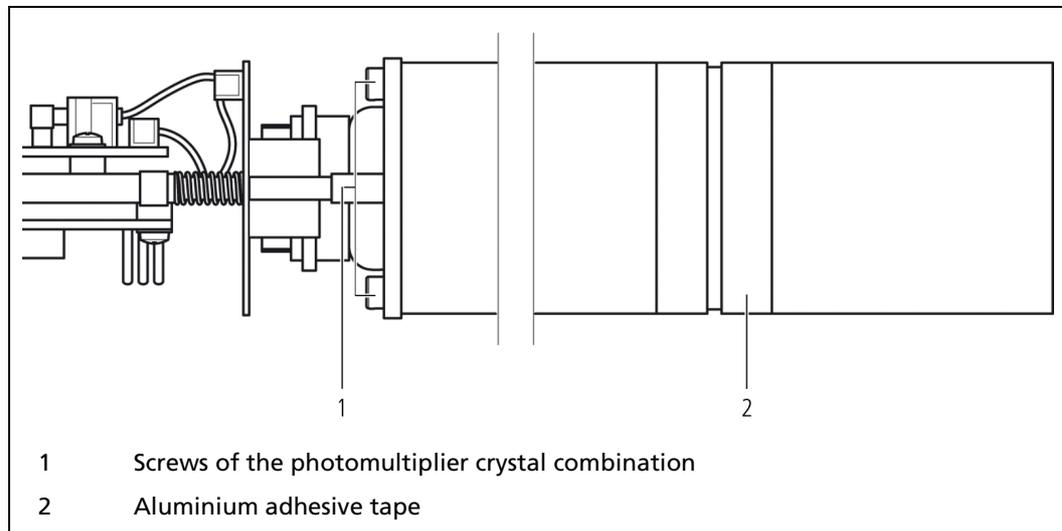

Fig. 37 GAMMAcast detector LB 6739 Csl 40/50, magnetic shielding and aluminium adhesive tape
4. Loosen the screws on the magnetic shielding (Fig. 37, pos. 1).
5. Remove the aluminium adhesive tape (Fig. 37, pos. 2) from the metal shielding.